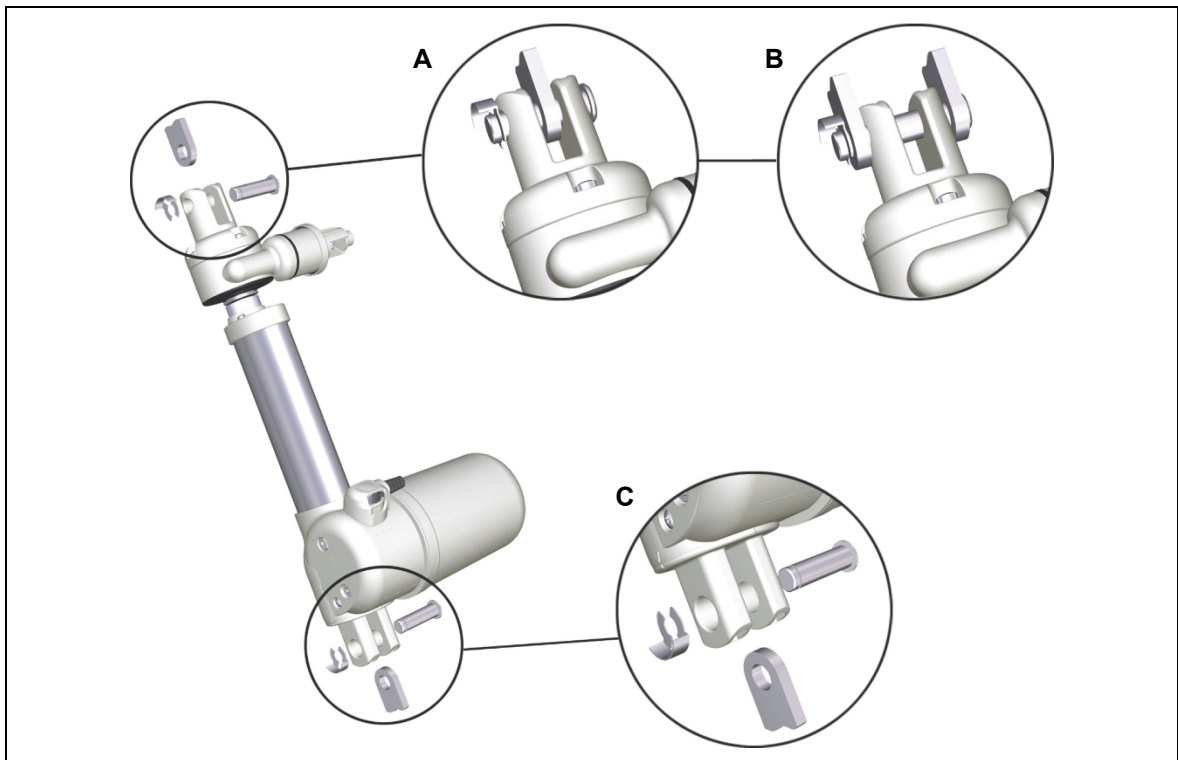

Figure 23 Recommended design of bracket
The brackets should be aligned precisely with each other. We recommend that only one mounting bracket is used on both sides of the drive ( as shown by **A** in Figure 23). When two mounting brackets are used, there is a greater risk that they are not properly aligned, resulting in a tilted drive unit.
The drive must be firmly attached, but there should also be a certain degree of movability at the mounting points. The drive must be mounted so that it is protected in all positions against twisting and bending. You can also use brackets with two mounting holes (as shown by **B** in Figure 23), but these must be exactly aligned so that the release force is not increased.
- ▶ We recommend: an oval slot (as shown by **C** in Figure 23) should have at least 2 millimetres of extra room.